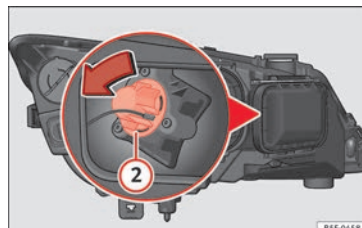

Fig. 106 Turn signal bulb.
- Turn the bulb holder » **Fig. 106 ②** anti-clockwise and pull.